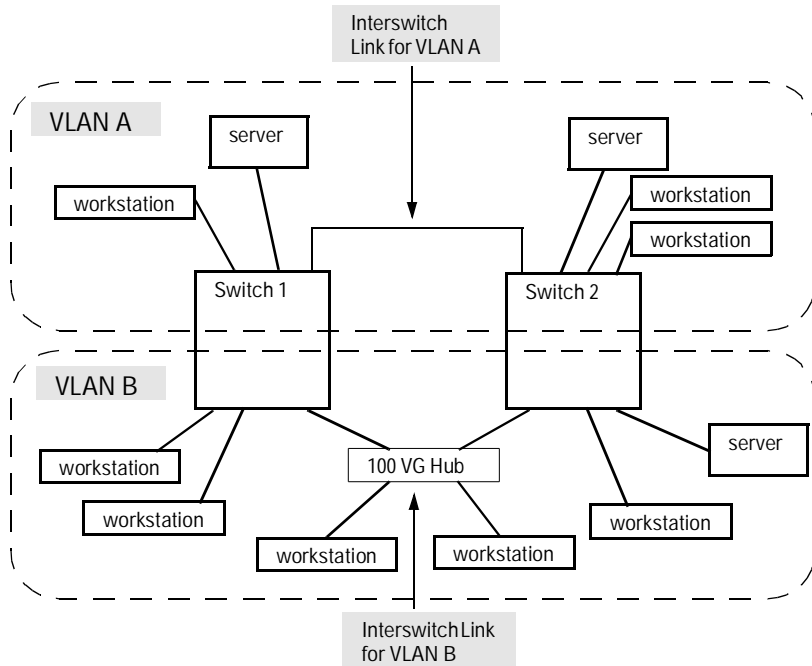

Figure 7-9. Example of VLANs Spanning Multiple Switches
**VLANs Spanning Multiple Switches.** It is possible to have ports on more than one switch that are members of the same VLAN. Switches having VLANs that cross multiple switches must be interconnected by one link per VLAN. For example, if VLAN A and VLAN B span two switches, the switches must be interconnected by two independent links; one for VLAN A and one for VLAN B. This concept is illustrated in figure 7-9 on the next page.